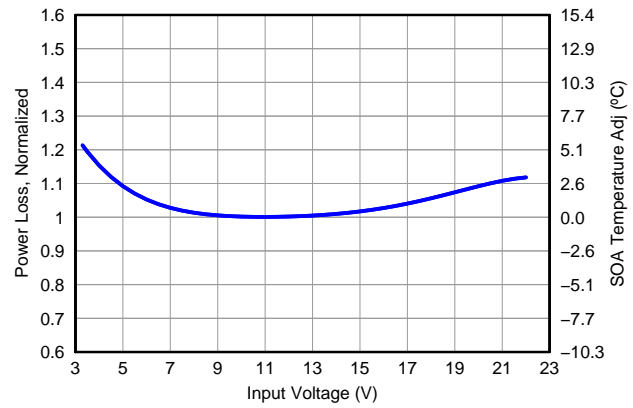

Figure 7. Normalized Power Loss vs Input Voltage
- Normalized power loss for input voltage ≈ 1 (Figure 7)
- SOA adjustment for input voltage $\approx 0^\circ\text{C}$ (Figure 7)